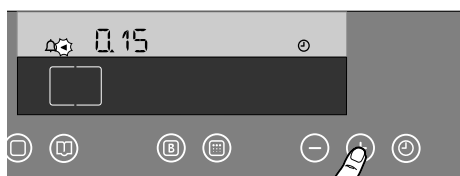

Fig. 11
2. Symbol  will flash for 5 seconds. Within this time, touch control "+" to select the required time (Fig. 11). Maximum time is 23 hours 59 minutes. After another 5 seconds after you have set the time, the symbol  stops flashing. This means that the setting has been stored in the Electronic Control memory and that the countdown started.
Touch the "Time Function" control : the symbol  flashes near the "Minute Minder" symbol . It is now possible to change the Minute Minder setting by touching control "-" or "+" (Fig.11).